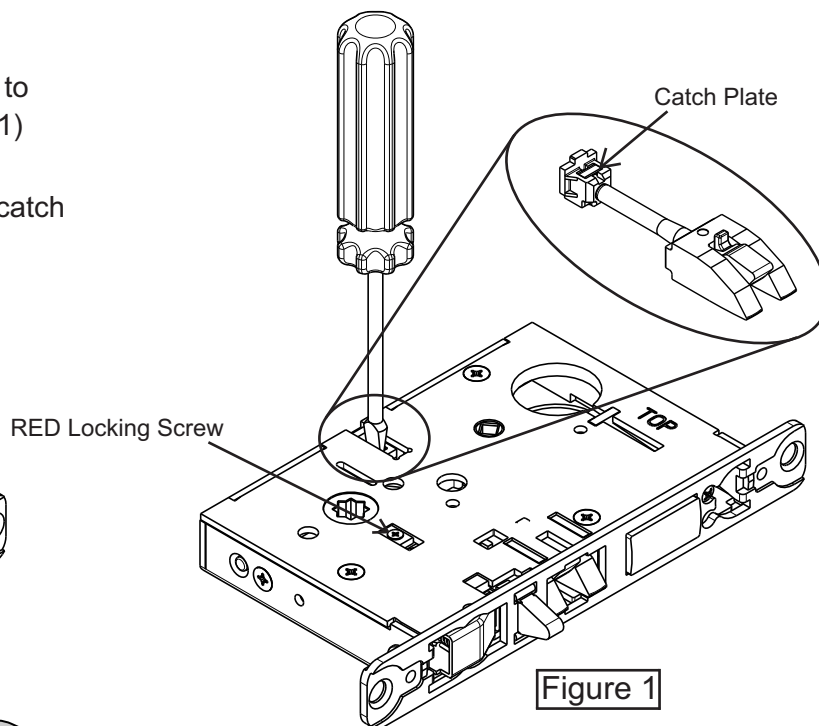

Figure 1
Step 1) Move the red locking screw to side of lock body being locked (Fig. 1)
Step 2) Push in latch then depress catch plate with screw driver (Fig. 1)